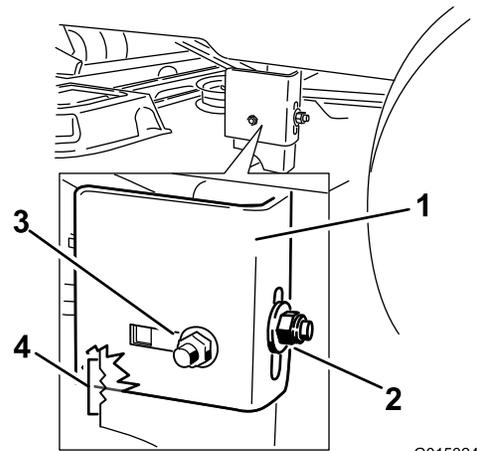

Figure 49
8. Loosen the rear locking nut on the hanger bracket just enough to move the bracket (Figure 49).
- Stop the deck at the adjusted position and tighten the rear locking nut on the hanger bracket to hold the new position (Figure 49). Tighten the side locking nut on the hanger bracket.